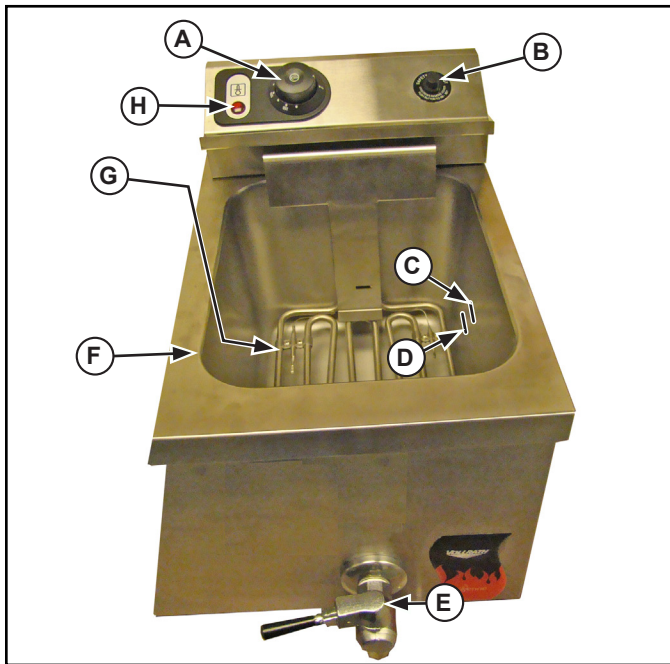

Figure 1. Features and Controls
2. Fill or add oil/solid shorting to the well (F). Always maintain oil level between High Oil Level (C) and Low Oil Level (D) as indicated on the side of the well. See Figure 1. DO NOT overfill.
8. Using a damp cloth or sponge dipped in soapy water to clean the unit and well(s); rinse thoroughly. Or, you may also fill the well(s) (C, Figure 1) with water and dish washing liquid and boil it for a few minutes; drain well and rinse thoroughly. It's important that the unit doesn't run dry as it will cause the element to burn out.
This unit is equipped with a switch that cuts off power if the oil temperature reaches 430°F (221°C). This switch has a manual reset. The reset switch and cover (B) is located on the front panel of the unit. See Figure 1.